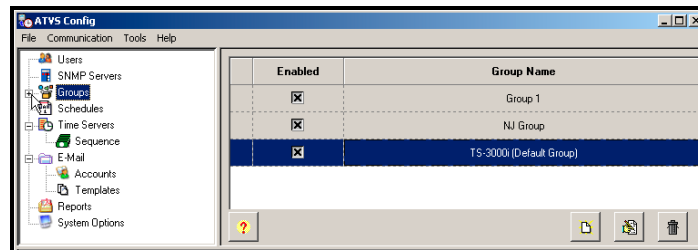
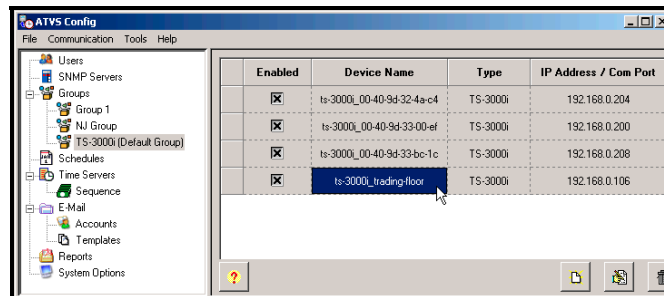

Figure 6-7. ATVS Config Main View.
Figure 6-8. Expanded Groups List with TS-3000i Default Group.
Step 7. Close the Import Devices window and you will be back to the ATVS Config default main view (see *Figure 6-7*). Click on the Groups icon in the tree view and any created groups will appear in a list on the right. Next, expand the Groups list by clicking in the tree view on the +. All previously defined groups will appear in the left-hand tree view (see *Figure 6-8*).
Step 8. Select the **TS-3000i Default Group** from the expanded list by clicking on it in the tree view to display a list of devices in that group on the right-hand side (see *Figure 6-8*).